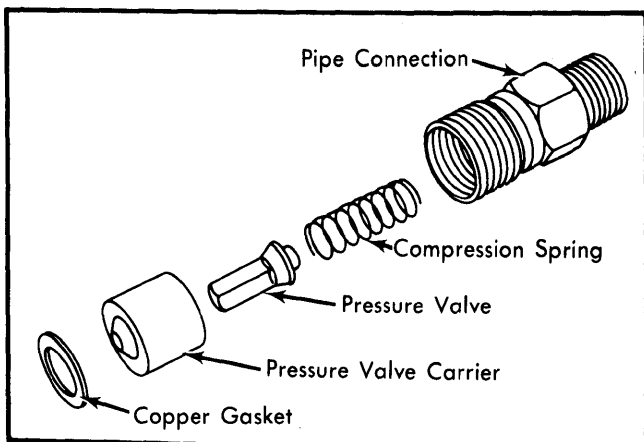

Fig. 9 Injection Pump Pipe Connection Fittings
2) Clean pump connections. Remove vacuum hoses from pump. Remove No. 1 injection line, then unscrew pipe connection and remove compression spring and pressure valve. Leave pressure valve carrier and copper gasket in place. See Fig. 9.